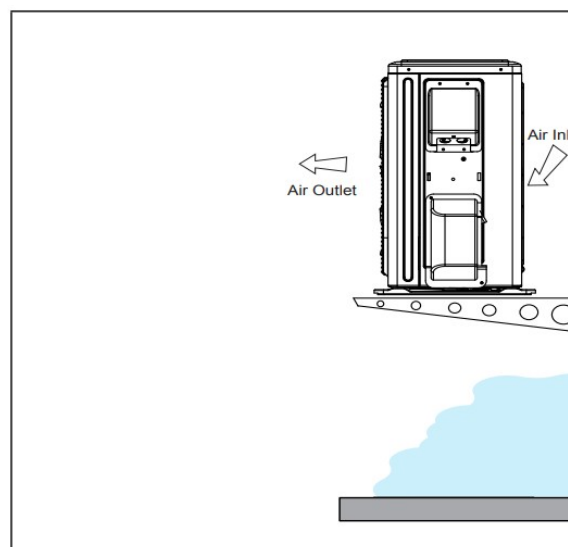

Figure 24. Outdoor Unit on Brackets Line
- The unit base should be elevated above the depth of average snows as illustrated in "Figure 24. Outdoor Unit on Brackets above Snow Line".